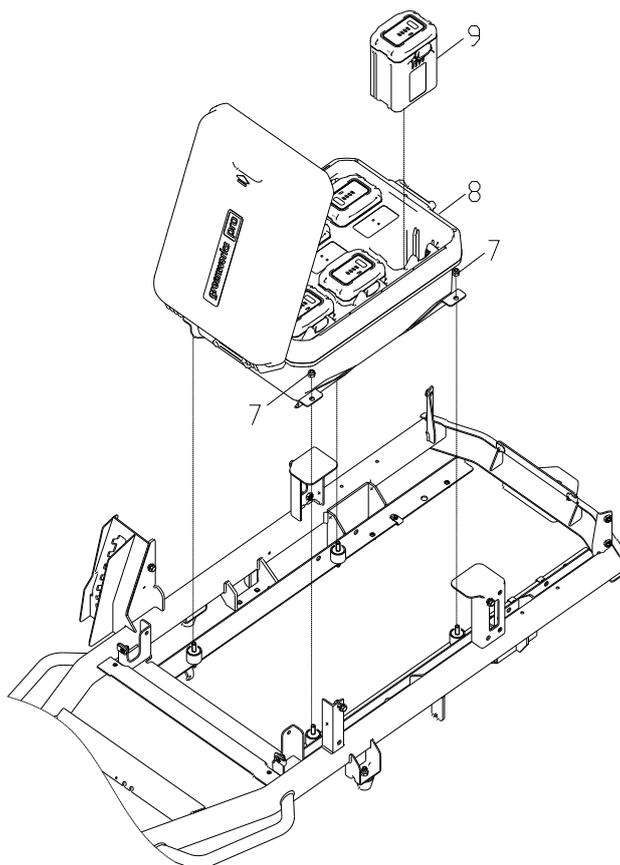

Fig. 7
7. Use a 13 mm socket to loosen the four nuts (1) in Fig.7 by rotating counterclockwise and remove them.